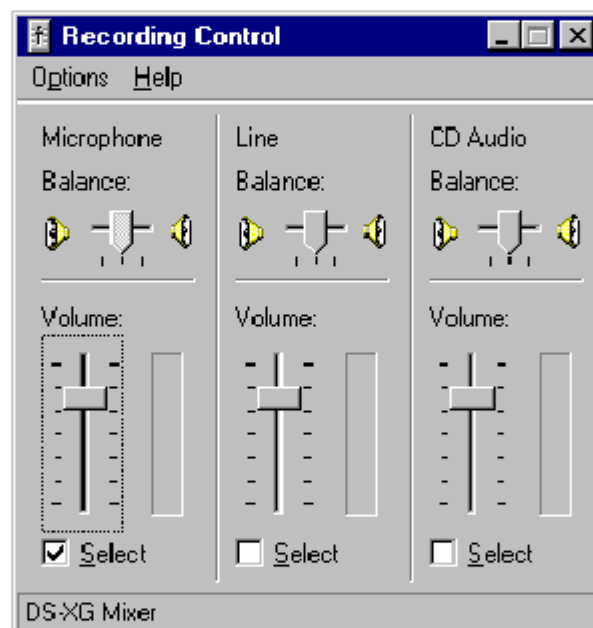

Figure 3-4. The Recording Control window.
2. Click on **Recording**. The *Recording Control* window will now appear as shown in Figure 3-4 below.